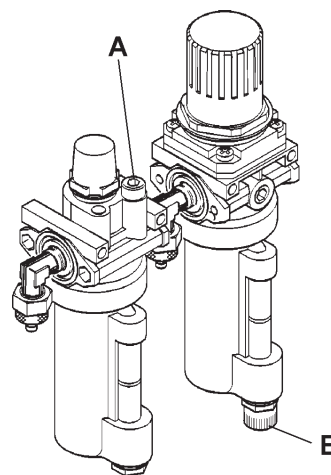

Fig. 5-7
H. Discharge water from air filter every day!! Do this by turning the knob "B" clockwise and push upward. Water will automatically be discharged. (see 'B' at Fig. 5-7).